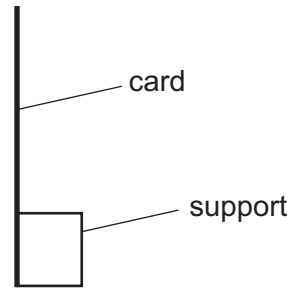

Fig. 3.2
- (iv) Plain white screen. A white sheet of stiff card, approximately 150 mm × 150 mm and fixed to a wooden support, is suitable. See Fig. 3.2.